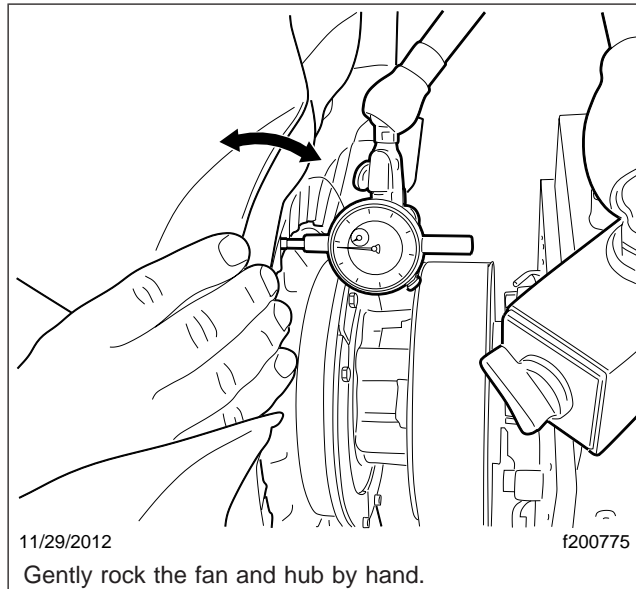

Fig. 2, Checking the Rock Runout Measurement
6. Grasp the fan at the hub and gently rock the fan fore and aft. See **Fig. 2**.